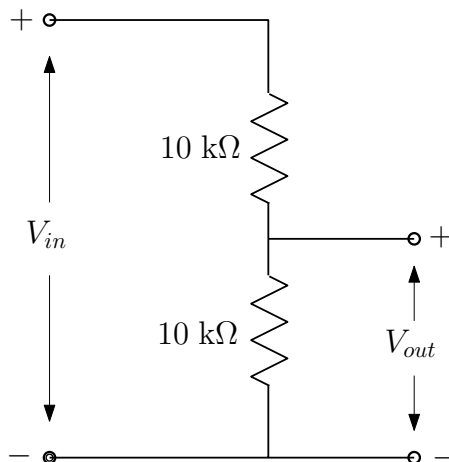

Figure 2.4: Voltage divider.
3. For the voltage divider shown in Figure 2.4, use Kirchhoff's voltage law to determine V_{out} as a function of V_{in} .
4. If the voltage input, V_{in} , in Figure 2.4 is an AC voltage (i.e., a voltage that varies with time) do you expect the equation you found above to hold? Why or why not?
1. Construct the voltage divider shown in Figure 2.4 and apply $V_{in} = 15$ V DC.
Using the same setup as in Figure 2.4, use the function generator to set V_{in} to a 1 kHz sine wave with a peak-to-peak amplitude of 15 V and zero DC offset.